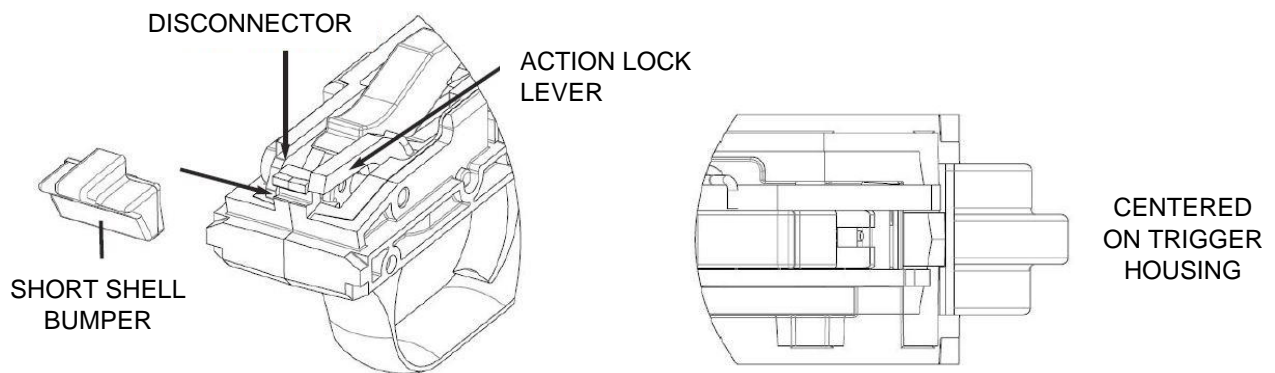

FIGURE 2
1. Depress the disconnecter and gently slide the short shell bumper into the dovetail slot towards the action lock lever until it is centered on the trigger housing as shown in figure 2.